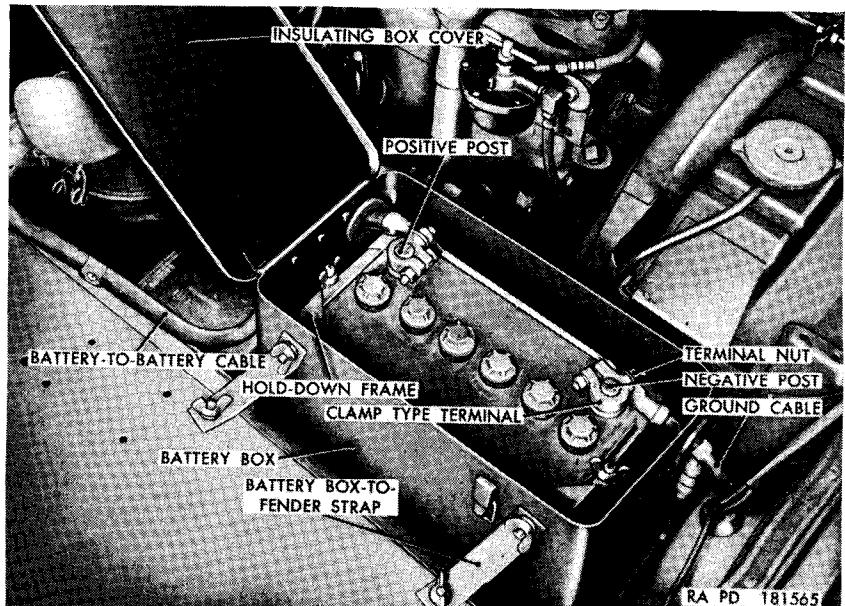
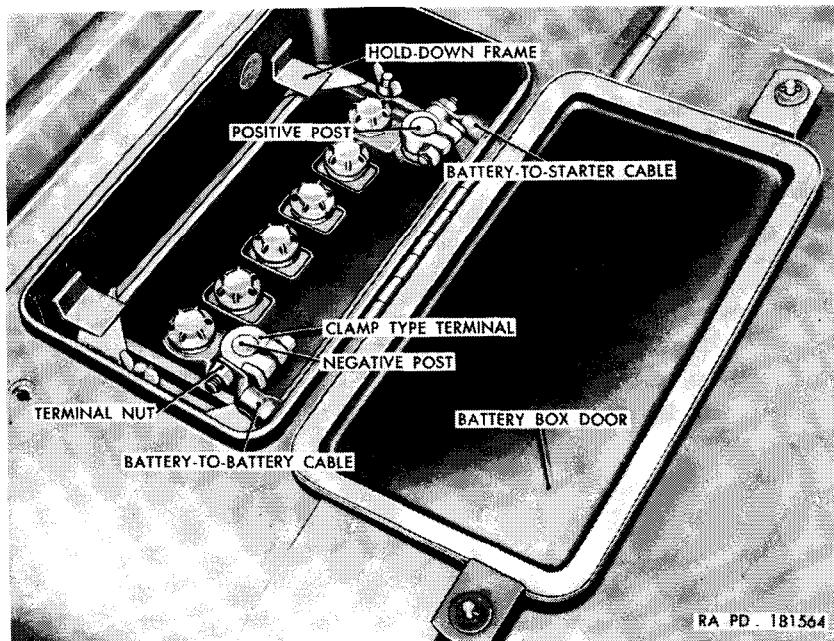

Figure 68. Battery "A" located in engine compartment.
Figure 69. Battery "B" located in cowl.
- (2) *Batteries*. One battery is located in the right side of the cowl (fig. 69) and is accessible through a door on the top of the cowl. The other battery is located in the right side of the engine compartment (fig. 68). Terminals are waterproofed by applying a thick coating of artillery and automotive grease (GAA) after installation.
a. General. For purposes of identifying the individual batteries in the procedures given in this paragraph, the battery located in the engine compartment is identified as battery "A" (fig. 68) and the battery located in the cowl is identified as battery "B" (fig. 69).
c. Battery "A" Removal (fig. 68).
- (1) Lift and release the ring latches securing the insulating box cover and open the cover.
- (2) Remove the terminal nut and disconnect the ground cable from the clamp-type terminal on the negative post.
- (3) Remove the terminal nut and disconnect the battery-to-battery cable from the clamp-type terminal on the positive post.
- (4) Remove the two wing nuts and flat washers securing the hold-down frame to the battery, and the wing nuts and flat washers securing the battery box-to-fender straps to the battery box and hold-down frame. Remove the box-to-fender strap bolts and remove the hold-down frame.
- (5) Lift the battery straight up and out of the battery box.
d. Battery "A" Installation (fig. 68).
- (1) Lower the battery into the battery box, with the battery posts toward the engine side of the box.
- (2) Install the hold-down frame and install the two $\frac{5}{16}$ x $\frac{3}{4}$ bolts through the hold-down frame, the battery box, and the battery box-to-fender strap. Secure the hold-down frame and box-to-fender straps with four $\frac{5}{16}$ -inch plain washers and $\frac{5}{16}$ -inch wing nuts.
- (3) Connect the battery-to-battery cable to the clamp-type terminal on the positive post, and secure with a $\frac{3}{8}$ -inch terminal nut.
- (4) Connect the ground cable to the clamp-type terminal on the negative post, and secure with a $\frac{3}{8}$ -inch terminal nut.
- (5) Check polarity (*g* below).
- (6) Close the insulating box cover and secure with the ring latches.
- e. Battery "B" Removal (fig. 69).*
- (1) Open battery "A" insulating box cover (*c(1)* above).
- (2) Disconnect the ground cable from battery "A" (*c(2)* above).
- (3) Turn the wing nuts securing the battery box door one-quarter turn and open the door.
- (4) Remove the terminal nut and disconnect the battery-to-battery cable from the clamp-type terminal on the negative post.
- (5) Remove the terminal nut and disconnect the battery-to-starter cable from the clamp-type terminal on the positive post.
- (6) Remove two wing nuts securing the hold-down frame and remove the frame.
- (7) Remove the battery (*c*(5) above).
f. Battery "B" Installation (fig. 69).
- (1) Lower the battery into the cowl (see Note in *d*(1) above).
- (2) Install the hold-down frame and secure with two $\frac{5}{16}$ -inch wing nuts.
- (3) Connect the battery-to-starter cable to the clamp-type terminal on the positive post and secure with a $\frac{3}{8}$ -inch terminal nut.
- (4) Connect the battery-to-battery cable to the clamp-type terminal on the negative post and secure with a $\frac{3}{8}$ -inch terminal nut.
- (5) Close the battery box door and secure by turning the wing nuts one-quarter turn.
- (6) Connect the ground cable to battery "A" (*d*(4) above).